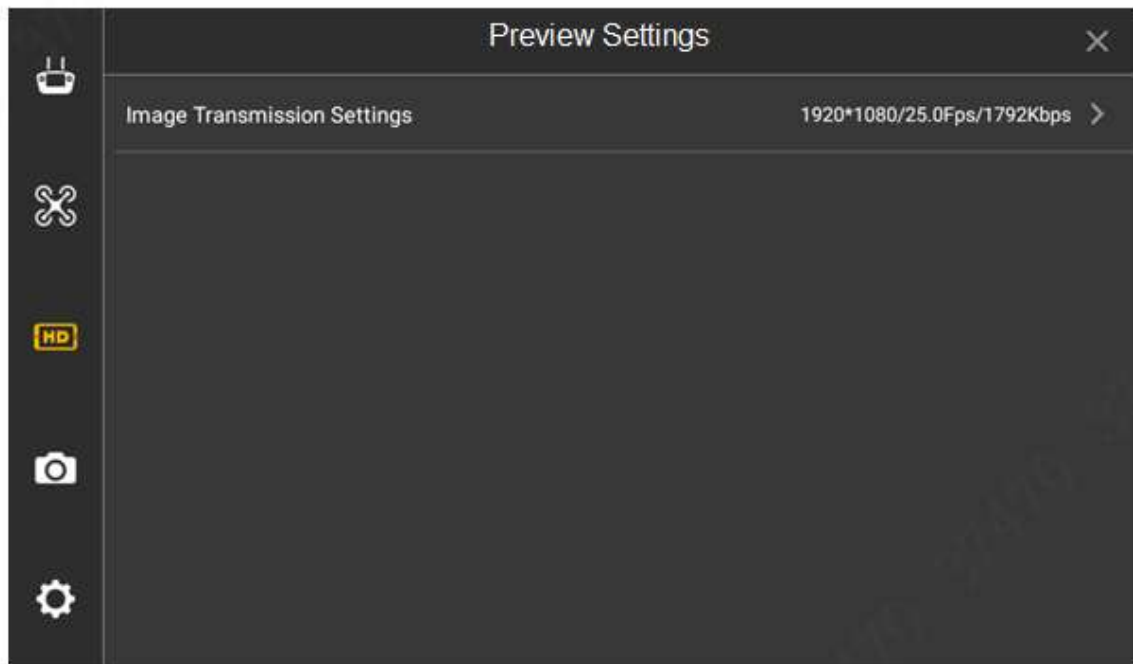

Figure 4-27
Step 1 Select "Settings > Flight Control Settings > Preview Settings" and enter the preview setting interface, as shown in Figure 4-27.